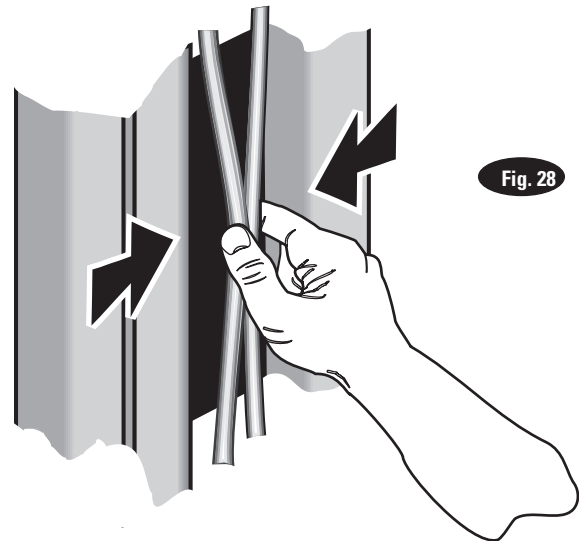

Fig. 28
24. Equalizer Cable Adjustment: Raise lift to check equalizer cable tension. Below carriage, grasp adjacent cables between thumb and forefinger, with about 15 lbs. effort you should just pull the cables together, Fig. 28. Adjust at upper tie-offs Fig. 17.